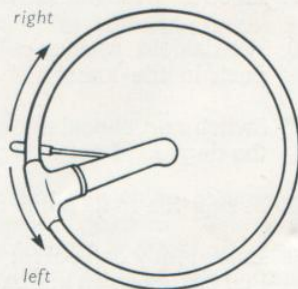

Figure 8
2. Turn signal lever. Move it as far as possible towards the top for right turn and towards the bottom for left turn (fig. 8). The timing unit automatically stops the signal after sufficient period. Nevertheless you can stop the signal **before** the action of the timing unit by moving the control slightly. You can also immediately reverse the direction of the signals.